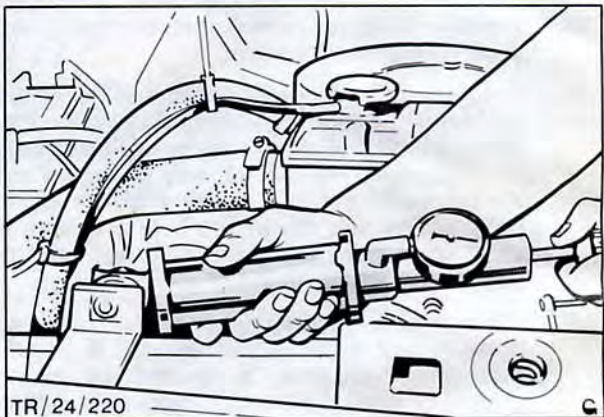

Fig. 32. Testing cap for correct pressure relief
4. Transfer adaptors and fit radiator expansion tank cap to tester, pump up and note maximum steady pressure achieved, Fig. 32. Pressure relief specification is stamped on top face of cap.